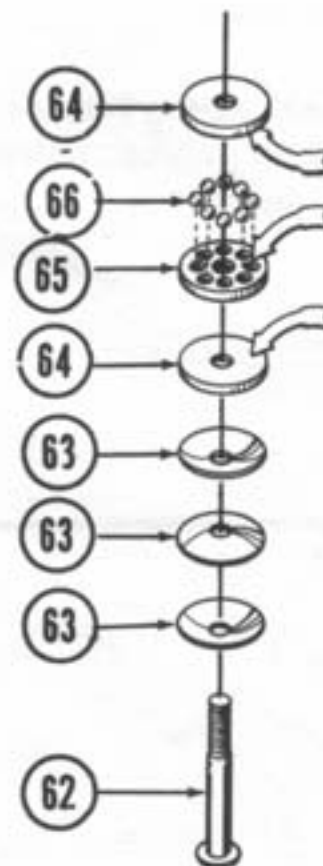

Figure 22
18. Using the 5-40 x 7/8" button head shoulder screw (62) assemble thrust assembly in the following order. Fig. 22
19. Slide three opposing belleville cone washers (63) down the 5-40 button head screw (62) with the tip of the cone of the first washer (63) against the head of the screw (62) Fig. 22
* Note: The belleville washers (63) are black. The washers should be opposing (i.e; the tops of the cones should meet and the bottoms of the cones should meet).
20. Slide one well greased thrust washer (64) down screw (62) as shown Fig. 22
* Note: The thrust washer (64) should only touch the big edge of the last belleville (63). Grease thrust bearing side of washer only, as indicated by arrows.
21. Slide well greased thrust bearing cage (65) down screw (62) Fig. 22
22. Insert eight 1/16" thrust balls (66) into cage (65) Fig. 22
23. Slide the second well greased thrust washer (64) down screw (62) Fig. 22
* Note: Grease thrust bearing side of washer (64) only.